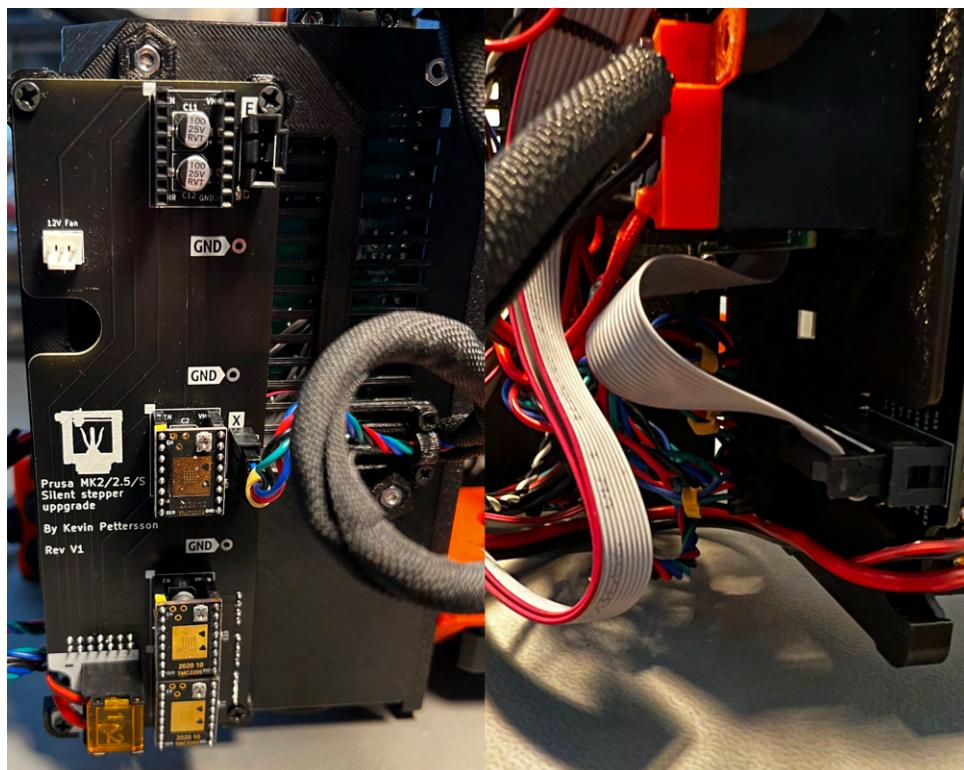

Figure 14: View of front and back of **XYZ-E** upgrade board for X, Y and Z installation, NOTE depicted image is of V1, V1.1 looks slightly different.
X-axis strain relief and stepper drivers. I suggest installing the drivers without heat-sink as it will be easier to adjust the Vref later. The result at this stage should look like Figure 14.
5. Lastly, add the cable to the cable sleeve and connect it to the LED port located next to the X-axis motor connector, as depicted in Figure 14. Please note that you should use the larger strain relief holder on the upgrade board and double check that the red wire is towards the + sign on the board.